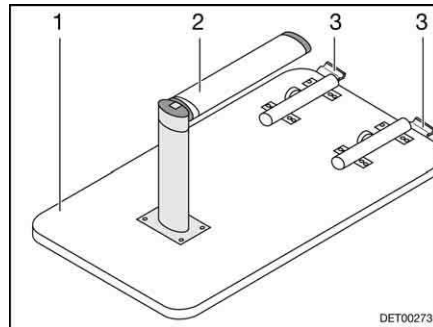
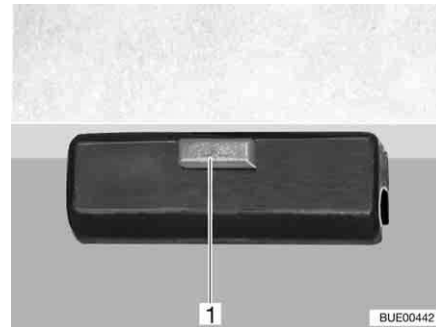

Fig. 26 Bed foundation
Fig. 27 Lock
- Lift the front of the table-top (Fig. 26,1) by approx. 45°.
- Pull the lower part of the fold-out leg (Fig. 26,2) down and fold through 90°.
- Press the release knob (Fig. 27,1) on the lock (Fig. 26,3).